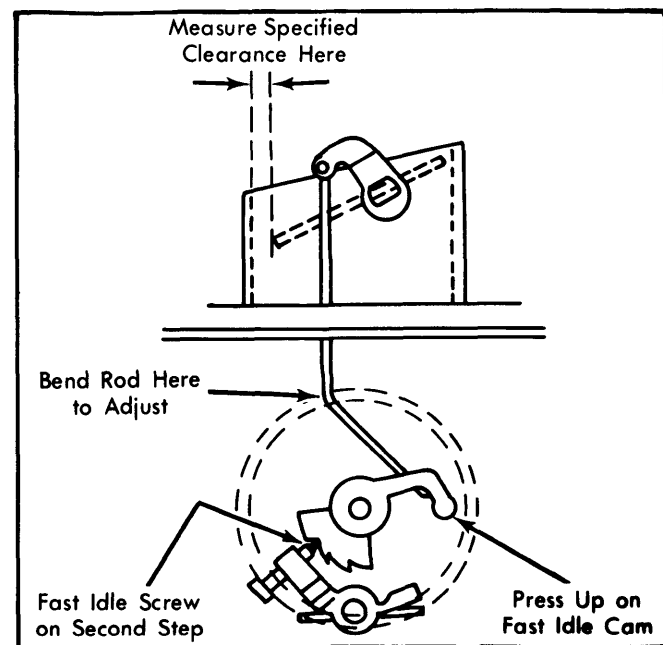

Fig. 5 Fast Idle Cam Adjustment
1) Loosen choke thermostat housing screws. Rotate housing 45° counterclockwise (rich) to close choke valve. Tighten choke housing screws. See Fig. 5.